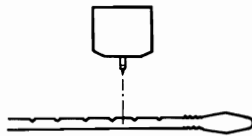

Figure 23
3. Set the turntable and turntable sheet and place the test record RG325 in position. (Remove the turntable belt from the pulley.) Press the left feed button to move the tone arm so that the stylus tip is positioned between the grooves of the large pitch (5mm pitch) of the test record as shown in Figure 23.